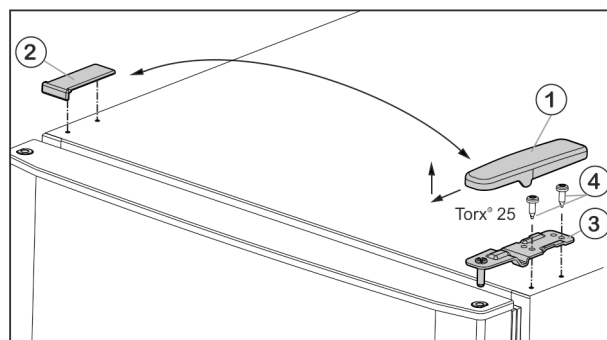
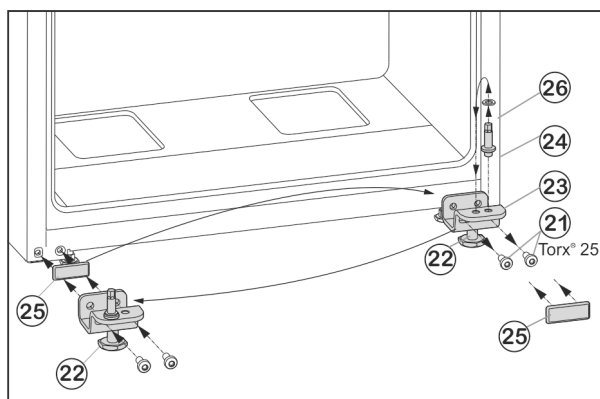

Fig. 5
Fig. 7
- ▶ Pull off the cover Fig. 5 (1) forwards and upwards.
- ▶ Lift off the cover Fig. 5 (2).
- ▶ Unscrew the upper turn hinge Fig. 5 (3) (2x Torx® 25) Fig. 5 (4) and lift it off.
- Unscrew fastening screws Fig. 7 (21).
- Remove the lower bearing block Fig. 7 (23), complete with bearing bolt Fig. 7 (24), washer Fig. 7 (26) and adjustable foot Fig. 7 (22).
- Unscrew the bearing bolt Fig. 7 (24), complete with washer Fig. 7 (26), re-locate it into the mounting hole on the opposite side of the bearing block and tighten again.
- Carefully remove the cover plate Fig. 7 (25) and re-locate it to the other side.
- Fasten the lower bearing block Fig. 7 (23), complete with bearing bolt Fig. 7 (24), washer Fig. 7 (26) and adjustable foot Fig. 7 (22) to the new hinge side, with the help of a cordless screwdriver if necessary, and **tighten (with 4 Nm)** once again.
- Lower the bottom door onto the bearing bolt Fig. 7 (24).
- Insert the centre bearing block (13) turned through 180° into the lower door and fasten firmly (**with 4 Nm**) to the new hinge side with the fastening screws (11) (2 x Torx® 25).
- Refit plastic washer (10).
- Set the upper door down on the centre bearing block (13).
- Insert the upper turn hinge Fig. 5 (3) in the door on the new hinge side.
- Screw in the upper bearing block **tightly (with 4 Nm)** (2 x Torx® 25) Fig. 5 (4). Use a cordless screwdriver if necessary.
- Fit the cover Fig. 5 (1) on the opposite side by sliding it rearwards and latching it into place.
- Press the cover Fig. 5 (2) on the opposite side down into place until it latches.
- Unscrew the adjustable foot Fig. 7 (22) on the lower bearing block Fig. 7 (23) until it reaches the floor.